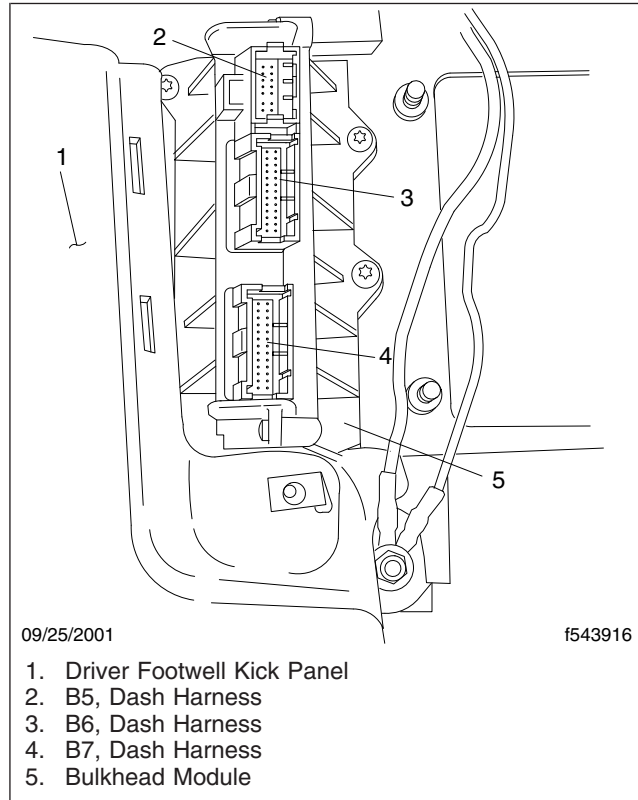

Fig. 3, Bulkhead Module from the Cab Side
4. Disconnect bulkhead harnesses B5 through B7 from the bulkhead module on the cab side of the frontwall. See Fig. 3.